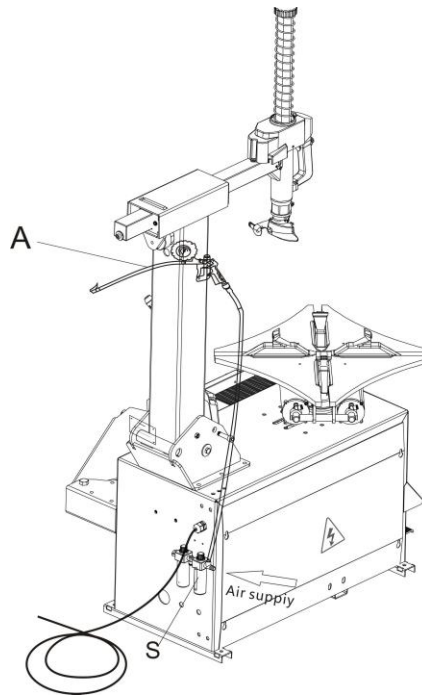

Fig. 11
- Gas circuit system: Please connect the inflate gun A to the upper connector of the three direct links on the Atomized lubricator, then hang on the hook on the column.(Fig.11). Connect the external air source to the parallel direction connector of the Atomized lubricator S(as the arrow show on Fig. 11)